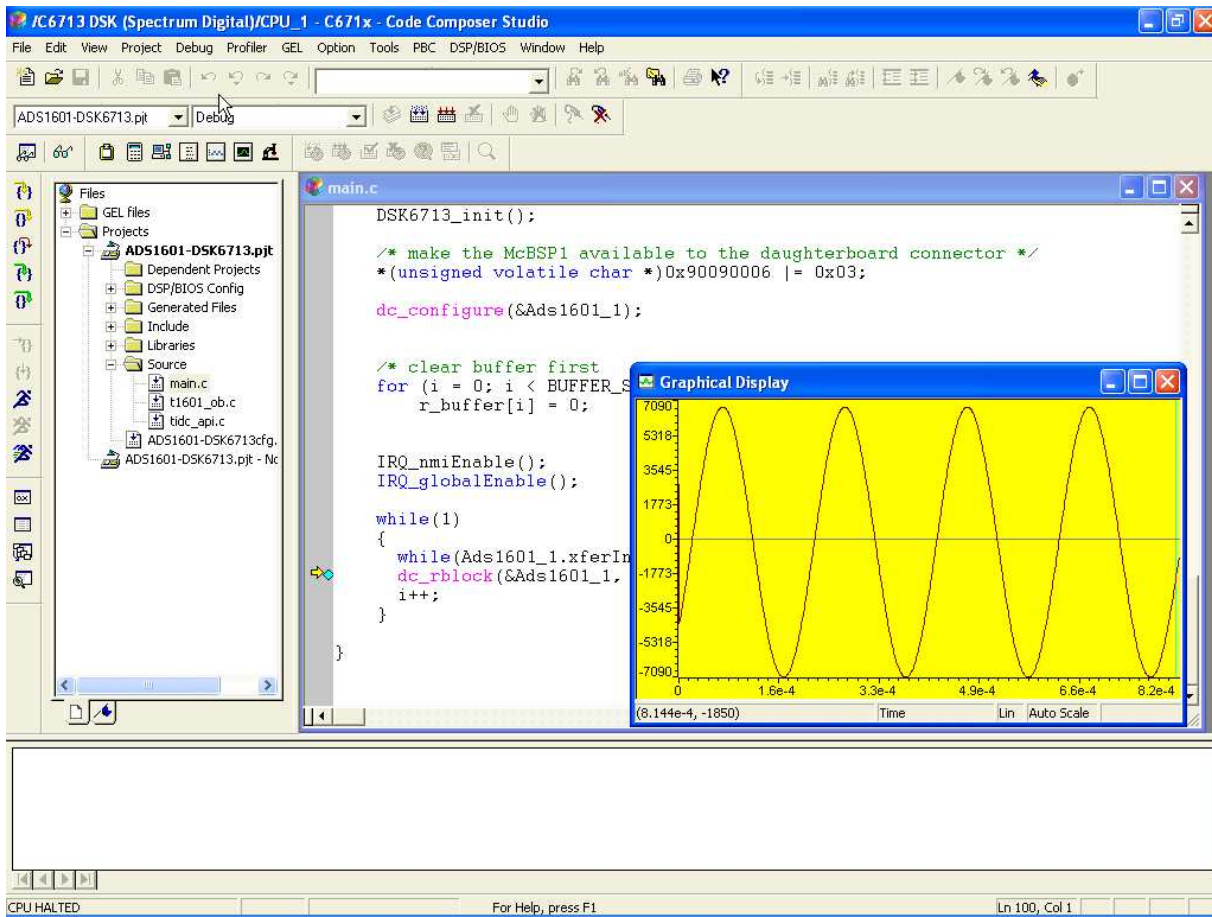

Figure 20. CCS Window with Graph
This section is a step-by-step description of how to use one of the example programs available on the TI Web site. The goal of the program is to display the digitized analog input of the ADS1601/02 on the PC, as shown in Figure 20.
- Start the program by pressing the <F5> key on your keyboard. After a short time, the graph window is updated and shows the waveform of the analog signal (see Figure 20).